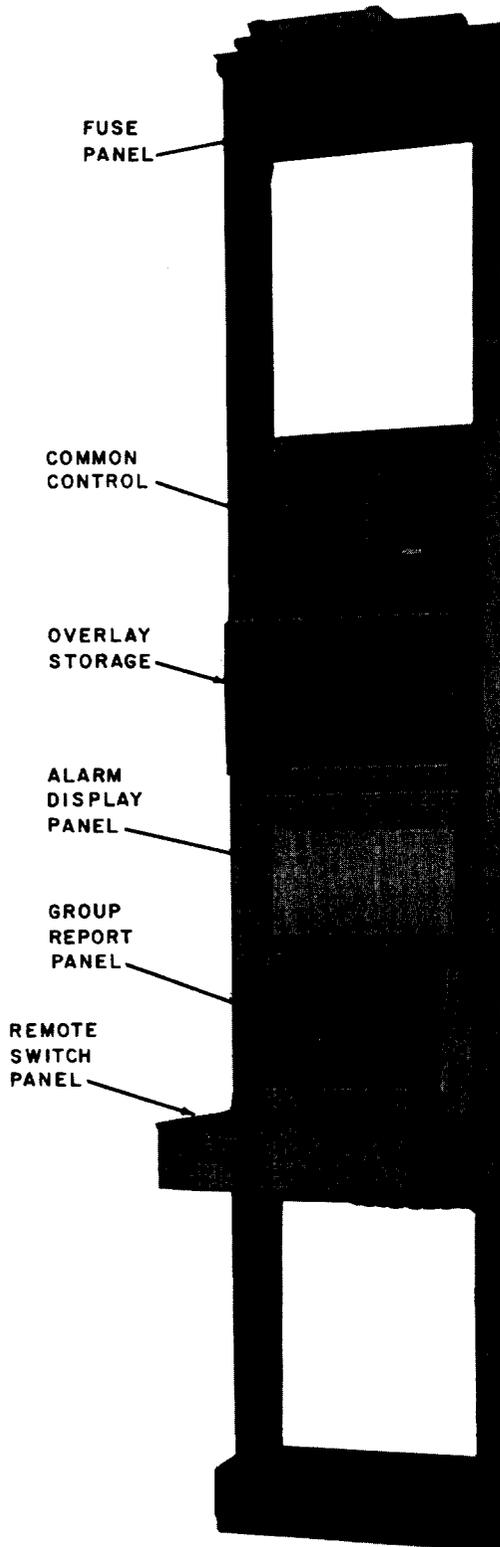

Fig. 1—Typical Central Station
**1.03** A typical E1 central station (Fig. 1) contains alarm display, status group report, and remote switching panels.